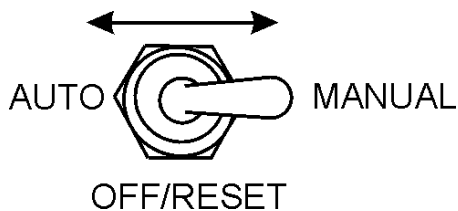

Figure 48. Auto-Off/Reset-Manual Switch
7. Place the Auto-Off/Reset-Manual switch in the "Manual" position to start the engine (Figure 48). Once the engine starts, let the engine run for 1-2 minutes. Listen for any abnormal noises.